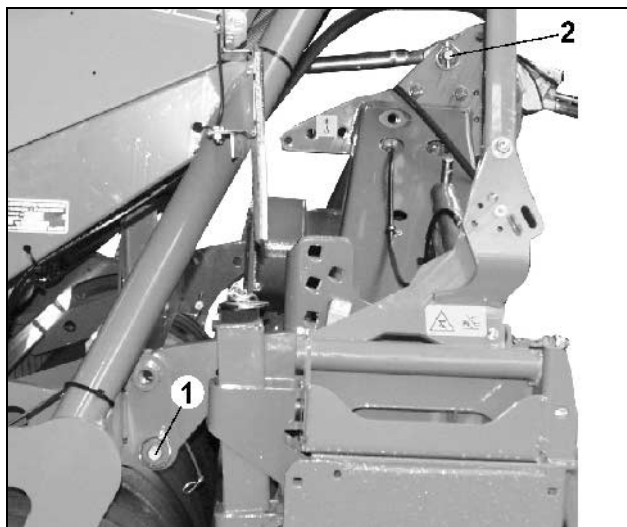

Fig. 39
- Insert the lower link fixing (Fig. 39/1) on the left and right hand side and secure with the aid of a fillister head screw and a nut.
- Insert the top link pin (Fig. 39/2) and secure using a lynch pin.